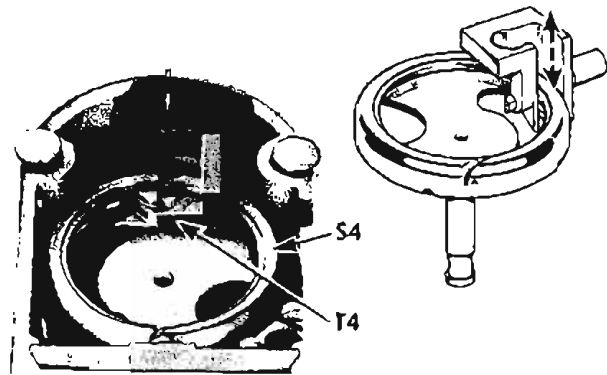

Fig. 43. Rotating Hook and Position Finger
7. Remove rotating hook assembly S4, Fig. 43.
8. Remove position finger T4 from hook, as shown in inset, Fig. 43.
1. Install position finger T4 on hook, as shown in Fig. 43. Slide position finger down and around ring on hook at point shown in inset of Fig. 43, keeping it away from hook point.
2. Install rotating hook assembly S4 with position finger T4, as shown in Fig. 43.